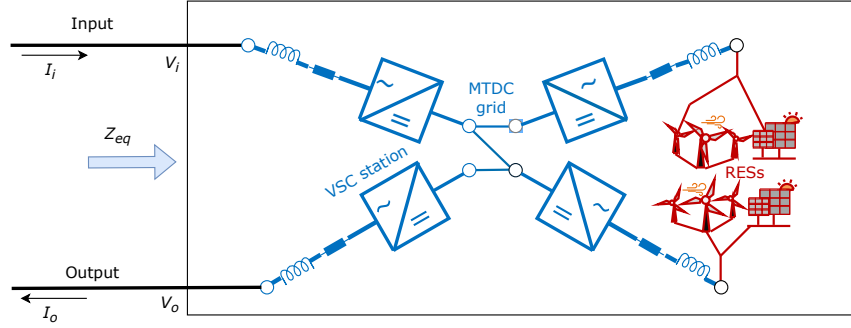

Figure 3.6: Equivalent impedance determination.
2. Assign input and output currents as depicted in Fig. 3.6.
3. Build Modified Nodal Analysis (MNA) [4] by adding all components except the ones on the direct connection to the input and output pins. Those components are considered as non-existent as seen in Fig. 3.6. Furthermore, the following sorting of variables should be applied: $[V_i, I_i, V_o, I_o, V]$, where
V_i and I_i present voltages and currents at the input like depicted in Fig. 3.6, V_o and I_o are output voltages and currents, and V are other voltage buses/nodes that are not input and output ones.